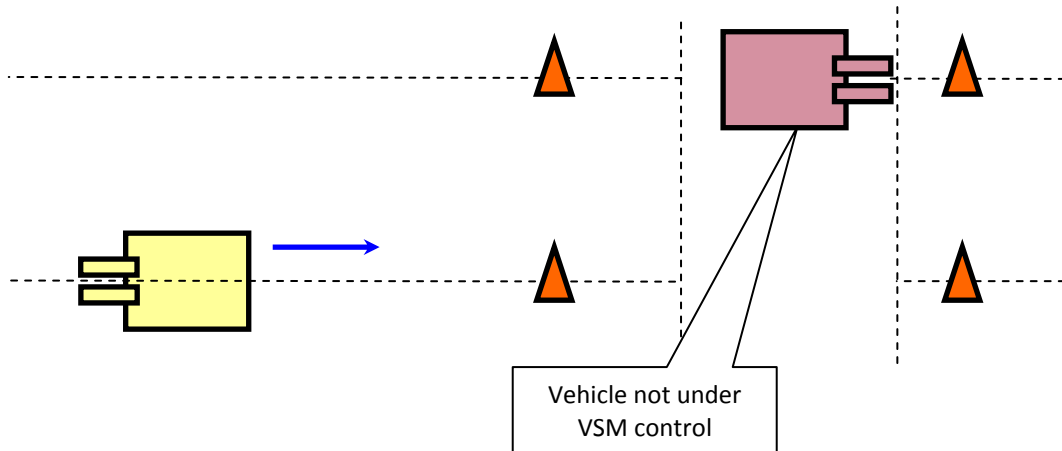

Figure 6
- When a vehicle is inoperable and/or not controlled by the VSM, the user must take care to block travel paths around the repair area to assure the work area is safe from traveling vehicles. See Figure 6.